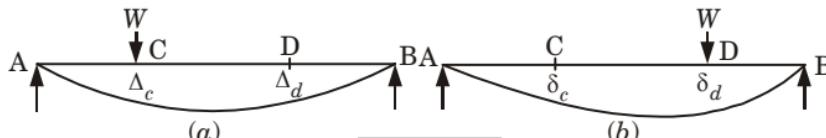

Fig. 3.3.1.
2. In Fig. 3.3.1(a) beam  $AB$  carries a load  $W$  at point  $C$ . Let the deflection at  $C$  be  $\Delta_c$  and when load  $W$  is acting at point  $D$ . Let the deflection at point  $D$  is  $\delta_d$  then according to law of reciprocal deflections or Maxwell's reciprocal deflection theorem we have